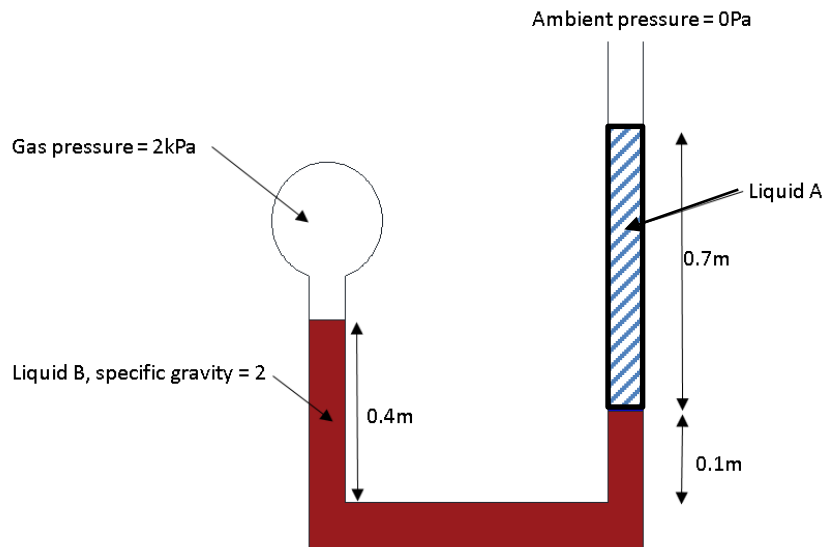

Figure 2 (a)
2. (a) Figure 2 (a) shows a manometer that has been used to measure the gas pressure. The manometer contains two different manometer liquids; Liquid A and Liquid B. Gas pressure is 2 kPa, and the specific gravity of Liquid B is 2. Calculate the density of Liquid A.